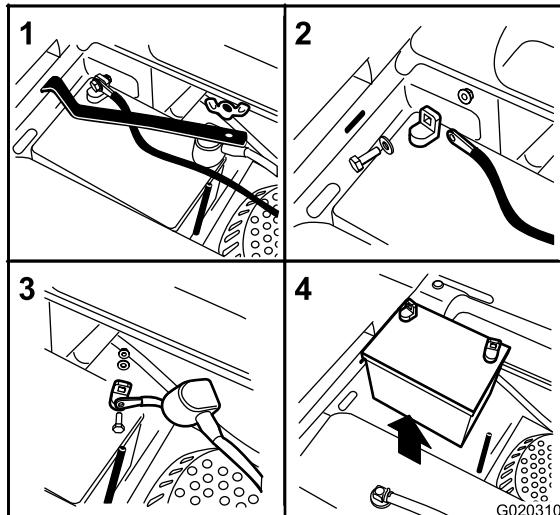

Figure 44
3. Remove the wing nut securing the battery clamp (Figure 44).
4. Remove the clamp (Figure 44).
5. First disconnect the negative battery cable (black) from the negative (-)(black) battery terminal (Figure 44).
6. Slide the red terminal boot off the positive (red) battery terminal and remove the positive +(red) battery cable (Figure 44).
1. Position the battery in the tray with the terminal posts opposite from the fuel tank (Figure 44).
4. Secure the cables with 2 bolts, 2 washers, and 2 locknuts (Figure 44).
6. Install the clamp and secure it with the wing nut (Figure 44).